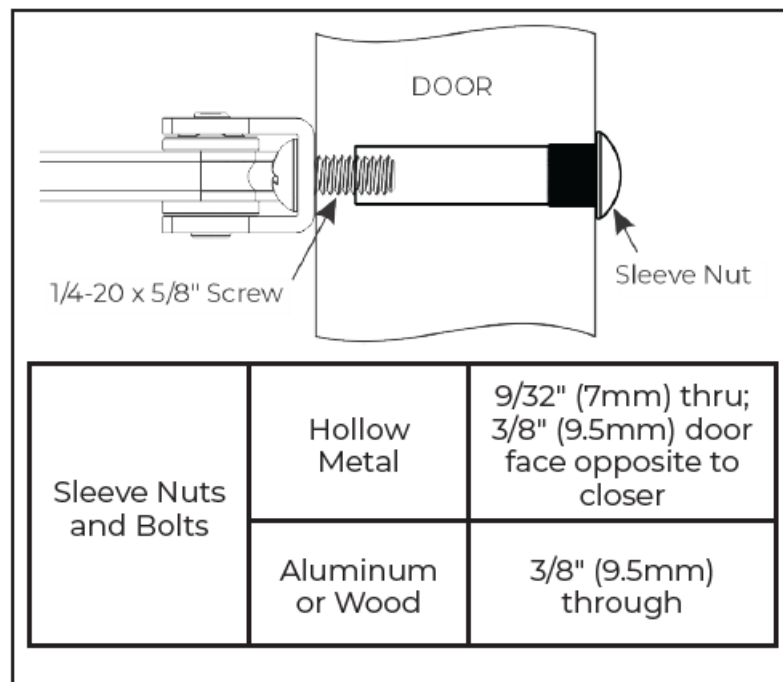

Figure 5
- For sleeve nuts and bolts, see illustration. (Figure 5)